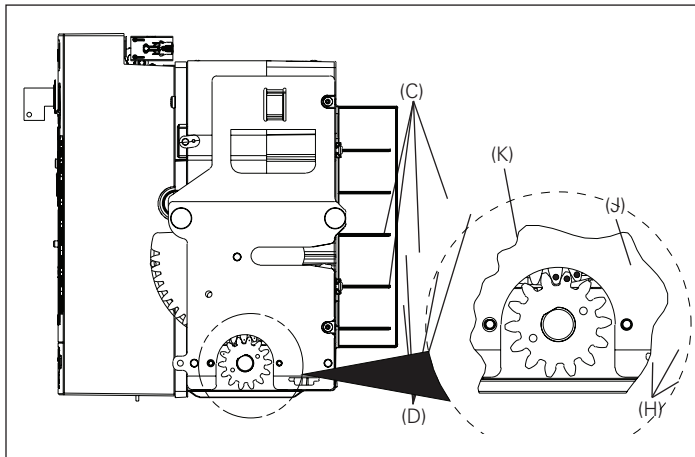
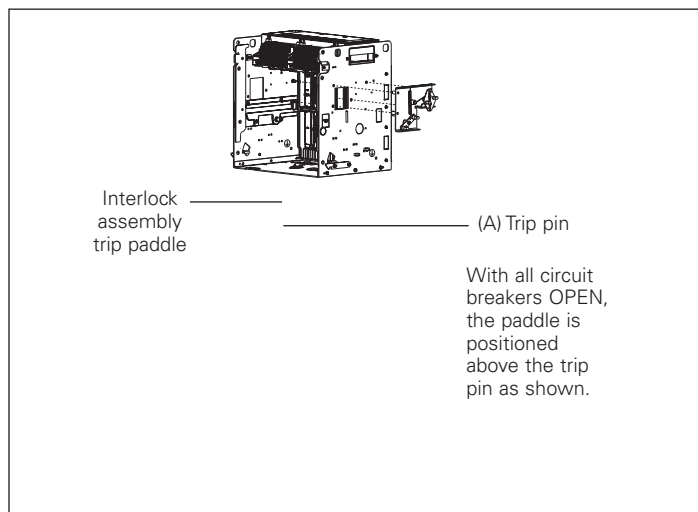

Figure 7. Details for Steps 5 and 6
Figure 8. Details for Step 6
Fasten the interlock assembly (J) to the fixed mounting bracket (K) using four M6 x 12 mm hex bolts (C) and four lock washers (D) as shown in **Figure 7**. Torque to 4,5–5,6 N·m (40–50 in-lb).
Fasten the fixed mounting bracket (K) to the right side fixed breaker mounting foot using three M6 x 10 mm thread-forming screws (H) as shown in **Figure 7**. Torque to 7,3–9,6 N·m (65–85 in-lb). Ensure that once attached to the breaker, the trip paddle is above the trip pin on the trip bar as shown in **Figure 8**.
Re-install M5 x 12 mm screw as shown in **Figure 7**. Torque to 2,2 N·m (20 in-lb).